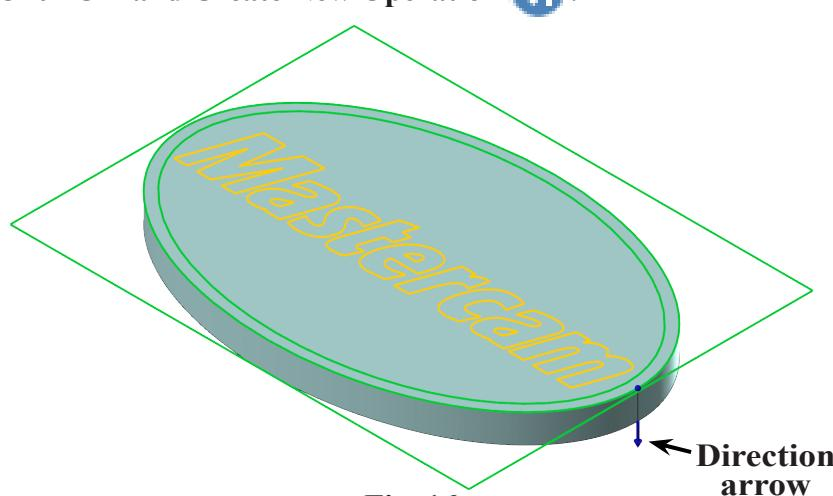

Fig. 14
Step 5. Click outside ellipse to chain, Fig. 14.